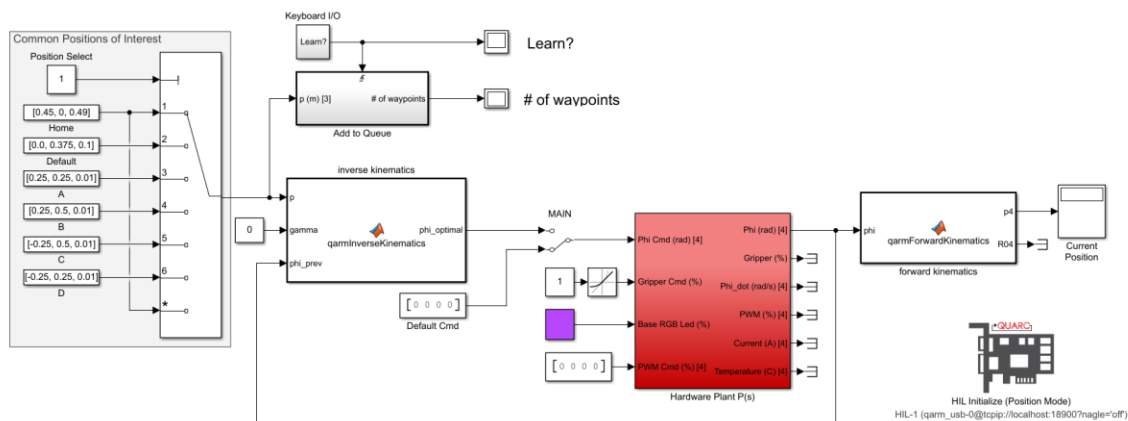

Figure 2.3: Simulink model *TeachPendant\_Learn.slx*
- Open the Simulink model TeachPendant\\_Learn.slx (Figure 2.3). You will use this model to "teach" the Quanser QArm a series of waypoints that simulate a robotic assembly process. This model emulates the learning mode of a real teach pendant.